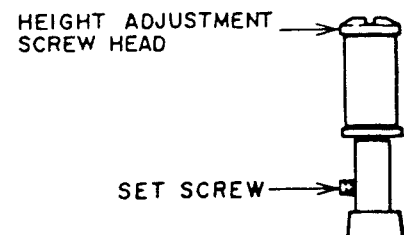

Fig. 4-12
- 1) Slightly loosen the set screw at the lower part of the LOADING LEADERS (L), (R) so that the LOADING LEADER can be adjusted with reasonable tightness. (Refer Fig. 4-12.)